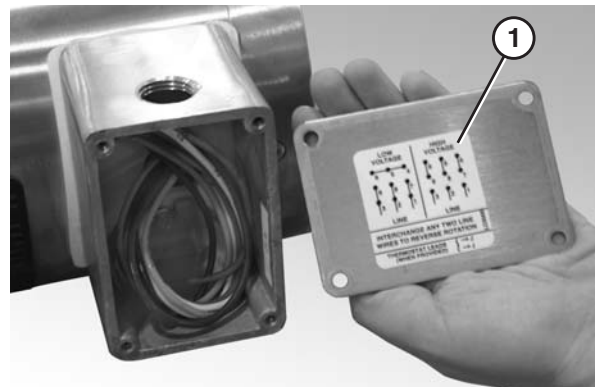

Figure 38
- Refer to the wiring diagram (**Figure 38, item 1**) on the inside of the junction box cover.